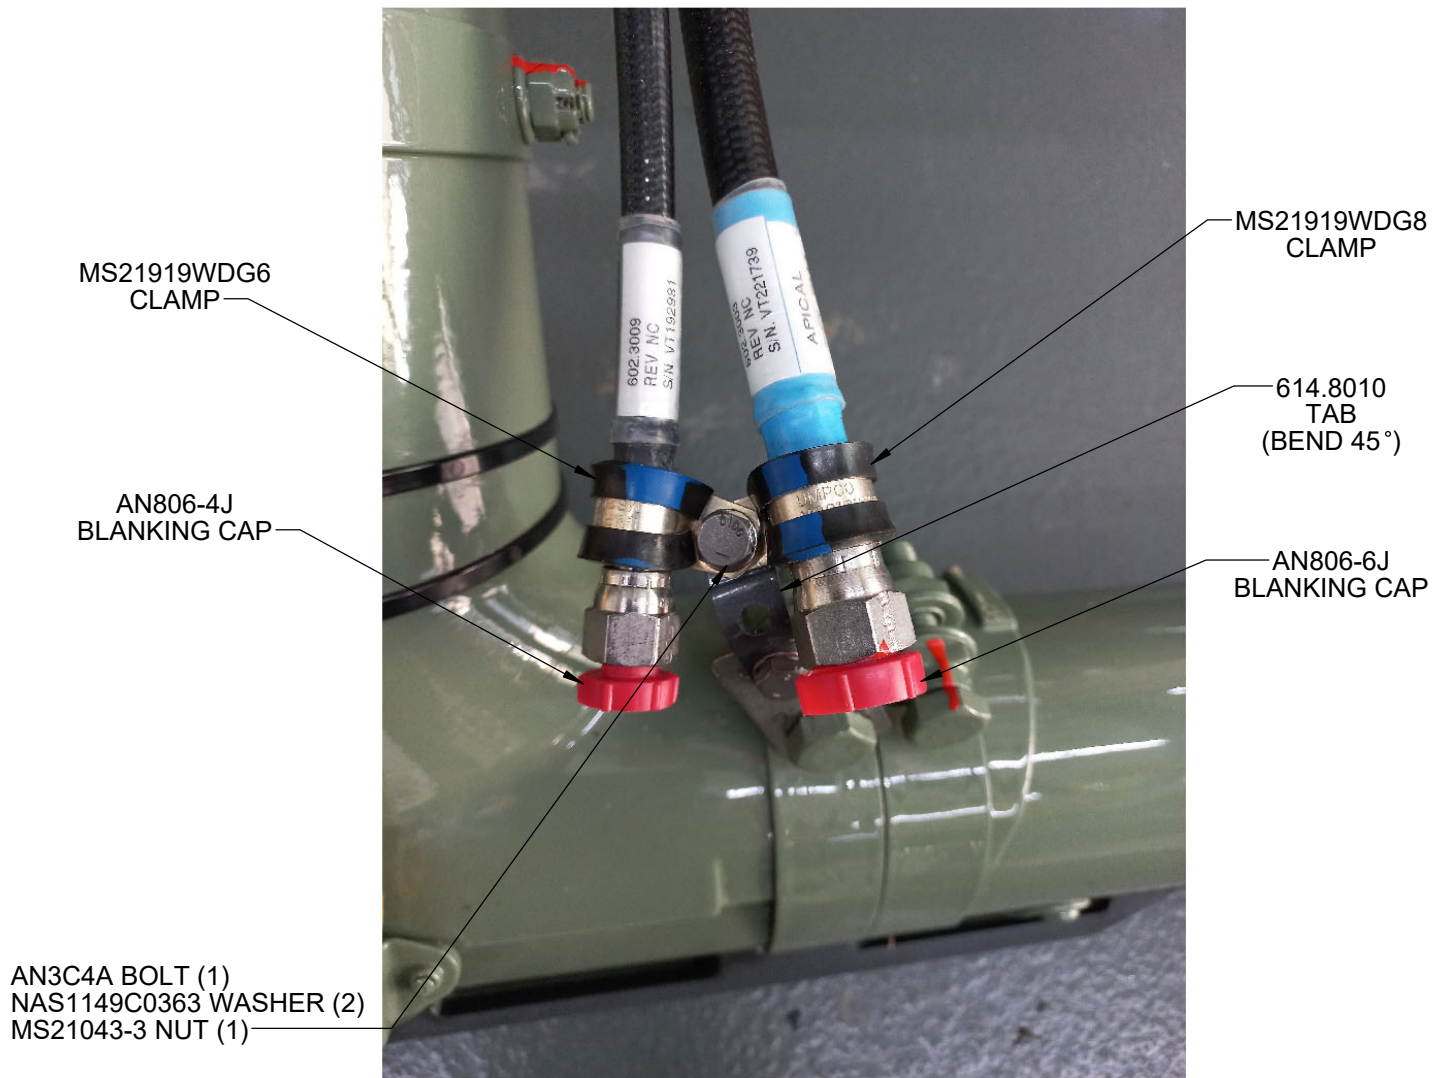
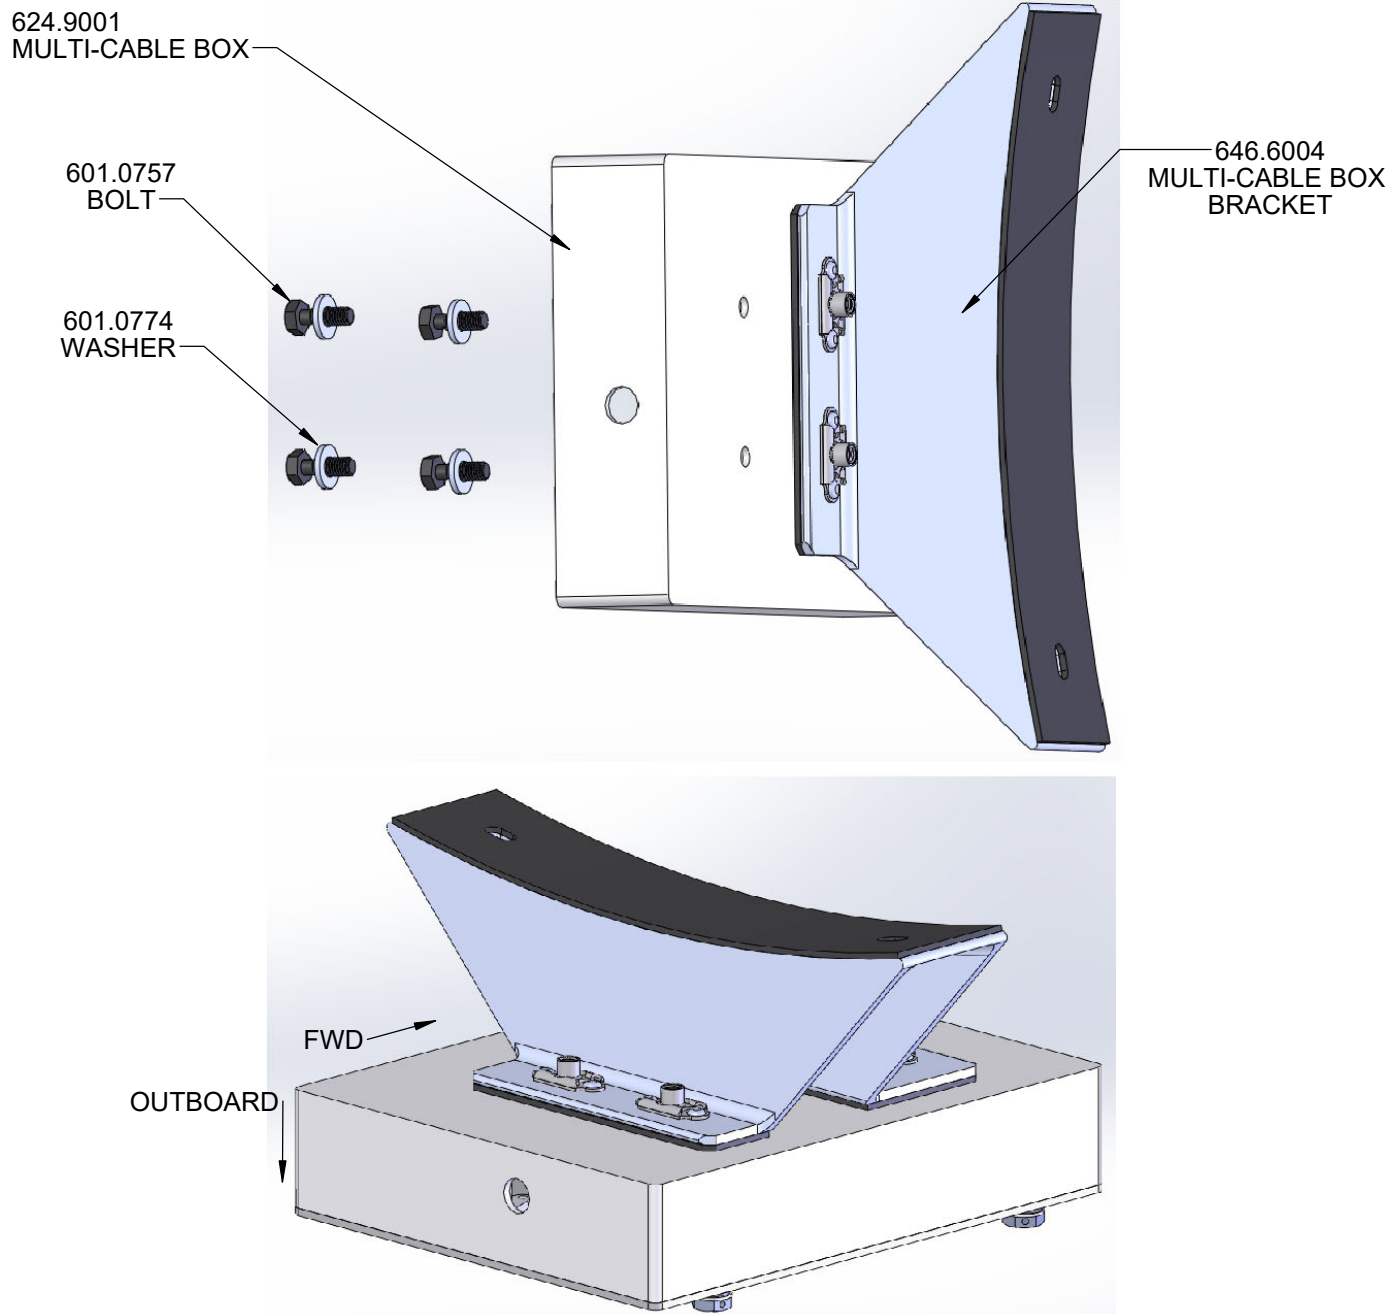

FIGURE 1: SECURE CROSSTUBE HOSES
FIGURE 2: MULTI-CABLE BOX ASSEMBLED
1. Install Switch Assy (P/N 634.6802) and qty. (2) Clamp Assy (P/N 649.5501) on the FWD Crosstube using qty. (4) Bolts (P/N 601.1874) and associated hardware.
6. Secure the Hose Assy (P/N 602.3009) and Hose Assy (P/N 602.3003) to the saddles on both skid tubes using hardware shown in Figure 1. Bend the Tab (P/N 614.8010) at a 45° angle to facilitate installation.
13. Remove qty. (2) Liferaft Bracket Assy (P/N 646.6003) from the aircraft by removing qty. (2) Bolts (P/N 601.0720) and associated hardware per bracket.
14. Install the Multi-Cable Box Bracket (P/N 646.6004) at the forward Liferaft Bracket location using qty (2) Bolts (P/N 601.0720) and associated hardware. Plug the holes at the AFT Liferaft Bracket location using qty. (2) Bolts (P/N 601.0757) and qty. (2) Washers (P/N 601.0774).
15. Attach the Multi-Cable Box (P/N 624.9001) to the Multi-Cable Box Bracket (P/N 646.6004) using qty. (4) Bolts (P/N 601.0757) and associated hardware as shown in Figure 2.
18. At the customer's discretion, it is acceptable to remove qty. (2) Float Brackets (P/N 651.4010) from the aircraft by removing the attachment hardware. These brackets are drilled to suit the aircraft, so they must be identified with the aircraft S/N from which they were removed as well as FWD/AFT location.
2. Remove the Aft Floats (P/N 646.5543/5544) and the Fwd Floats (P/N 646.5405/5406) from the skidtubes by removing qty. (3) Bolts (P/N 601.4394) and associated hardware per float.
7. Secure the Hose Assy (P/N 602.3009) and Hose Assy (P/N 602.3003) to the saddles on both skidtubes using the hardware shown in Figure 1. Bend the Tab (P/N 614.8010) at a 45° angle to facilitate installation.
11. Undo qty. (2) Clamp Assy (P/N 601.8101) securing the Float Reservoir (P/N 646.7402) to the Float Brackets on the RH side of the aircraft and remove the Float Reservoir (P/N 646.7402) & qty. (2) Clamp Assy (P/N 601.8101) from the aircraft.
12. At the customer's discretion, it is acceptable to remove the qty. (2) Float Brackets (P/N 651.4010) from the aircraft by removing the attachment hardware. These brackets are drilled to suit the aircraft, so they must be identified with the aircraft S/N from which they are removed as well as FWD/AFT location.
17. Loosen the qty (3) pull cables attached to the front of the Multi-Cable Box (P/N 624.9001) to gain access to the qty. (4) attachment bolts. Remove qty. (4) Bolts (P/N 600.0540) to separate the Multi-Cable-Box (P/N 624.9001) from the Cable Box Mount Assy (P/N 646.4302).
19. Remove qty. (2) Liferaft Bracket Assy (P/N 646.6003) from the aircraft by removing qty. (2) Bolts (P/N 601.0720) per bracket.
20. Install the Multi-Cable Box Bracket (P/N 646.6004) at the forward Liferaft Bracket location using qty. (2) Bolts (P/N 601.0720). Plug the holes at the AFT Liferaft Bracket location using qty. (2) Bolts (P/N 601.0757) and qty. (2) Washers (P/N 601.0774).
21. Attach the Multi-Cable Box (P/N 624.9001) to the Multi-Cable Box Bracket (P/N 646.6004) using qty. (4) Bolts (P/N 601.0757) and associated hardware as shown in Figure 2. Adjust pull cable routing to ensure 20mm (0.80") clearance to the aircraft grounding point. Secure the qty. (3) pull cables to the forward end of the Multi-Cable Box (P/N 624.9001).
2. Install the Aft Floats (P/N 646.5543/5544) and the Fwd Floats (P/N 646.5405/5406) on the skidtubes using qty. (3) Bolts (P/N 601.4394) and associated hardware per float.
3. Remove the hardware securing the Hose Assy (P/N 602.3009) and Hose Assy (P/N 602.3003) to the saddles on both skidtubes as shown in Figure 1.